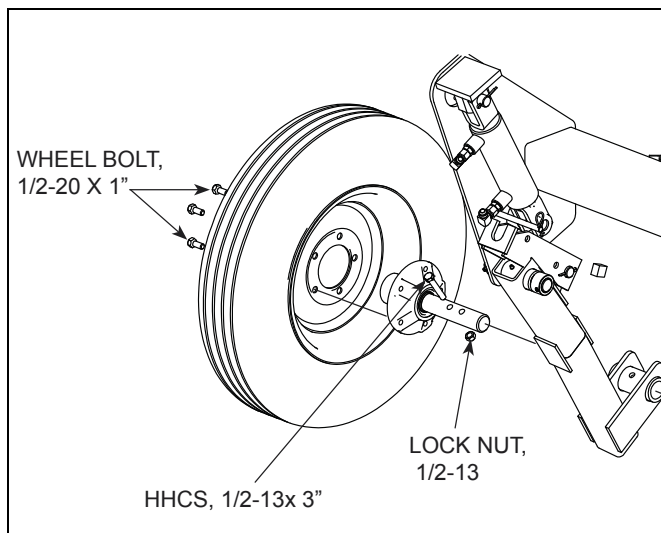

Figure 2-15 Wheel Installation
2. Install the spindles in the wheel arms and secure in outer spindle holes with 1/2" x 3" capscrews, lockwashers and nuts. See Figure 2-15.